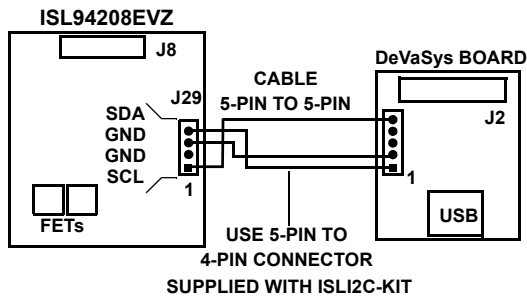

FIGURE 5. I2C CONNECTION TO ISL94208 PCB
- Connect the I2C cable from the DeVaSys board to the ISL94208EVZ board as shown in Figure 5. Use the 5- to 4-pin cable provided in the ISLI2C-KIT.